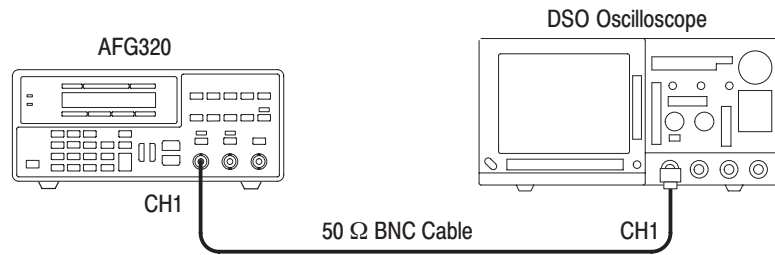

Figure 2-21: Hookup for Observing Output Waveforms
1. Connect the instrument to an oscilloscope using a 50 Ω cable with a 50 Ω termination as shown in Figure 2-21. The instrument is calibrated for waveform output to a 50 Ω load.